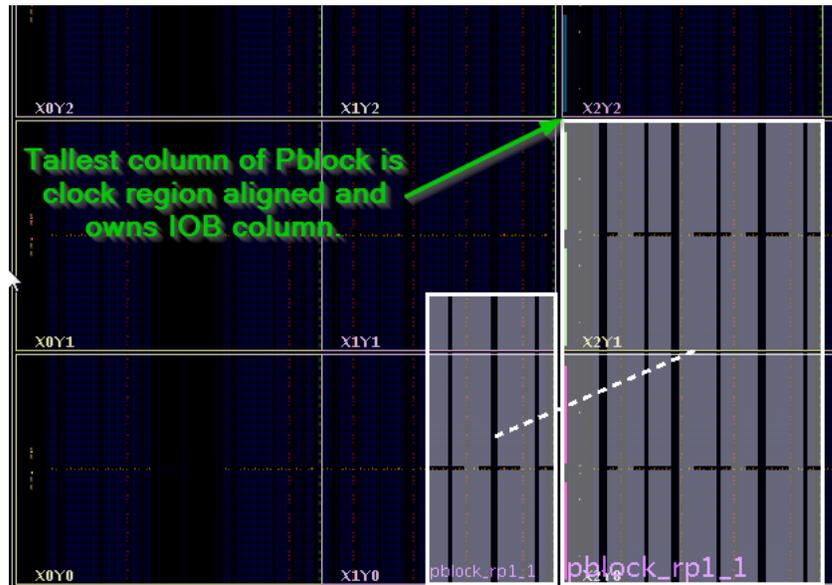

Figure 6-3: Tallest Column of Pblock Clock Region Aligned
- Xilinx recommends using rectangular Pblock shapes. Non-rectangular shapes are also supported for RPs with clocking logic, as long as the tallest column of the Pblock is aligned vertically and horizontally with the clock region. The tallest column of the RP Pblock must also range the IOB, and this range must cover the full height of all the rectangles that define the RP Pblock, as shown in Figure 6-3, page 81. In other words, this vertical column of IOB ranges must be able to access all rows of the Pblock. Pblock shapes like a sideways "L" are not supported unless the vertical section of the shaped includes the IOB range.